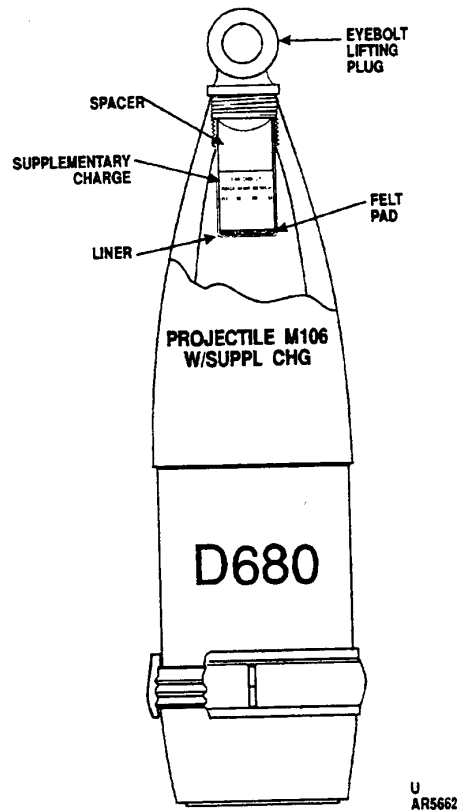

Figure 3-16. Proper Supplementary Charge Position.
3.9.1.4 Supplementary charge missing or showing felt pad (fig. 3-16). Supplementary charge pad is not oversized (see drawing 8797090, Rev U or later).